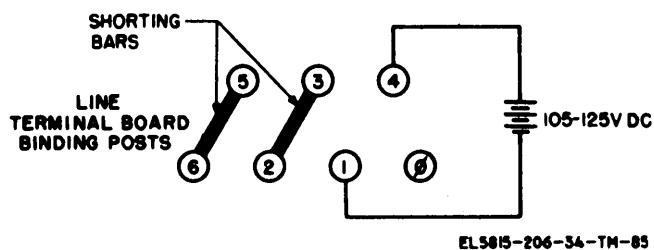

Figure 3-12. Teletypewriter test connections.
(1) If the local page printer operates properly when test signals are transmitted from the local keyboard-transmitter but does not operate properly when the test signals are transmitted from another station, the fault is either in the signal circuit or in the teletypewriter equipment at the other station.
(2) If the local page printer does not operate properly when the test signals are transmitted from the local keyboard-transmitter but does operate properly when the test signals are transmitted from any of the other stations in the system, the fault is in the local keyboard-transmitter.
(3) If the local page printer does not operate properly regardless of the source of test signals, the trouble is in the local page printer.
(4) If the fault is determined to be in the local teletypewriter, follow the instructions in *c* below.
*c. Local Test Method.* Connect high level teletypewriters for local test as shown in fig. 3-12 or low level teletypewriters as described in paragraph 3-18b. Check the performance of the teletypewriter as described in paragraphs 3-7, 3-8, and 3-9 of TM 11-5815-206-12. If the performance checks do not reveal the fault, make the tests described in paragraphs 3-18, 3-19 and 3-20.
(a) *Signal circuit TT-4(\*)/TG, TT-335/TG and TT-537/G (fig. 3-12).*